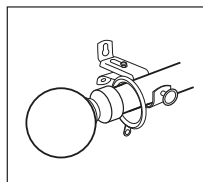

Fig. 4
- 6** Ensure that at least one ring is positioned on the outside of the brackets (between the bracket and finial at each end). Position the pole centrally into the brackets and then tighten up the rosette screw on the front of the brackets to fasten the pole securely in the brackets (see Fig 4).